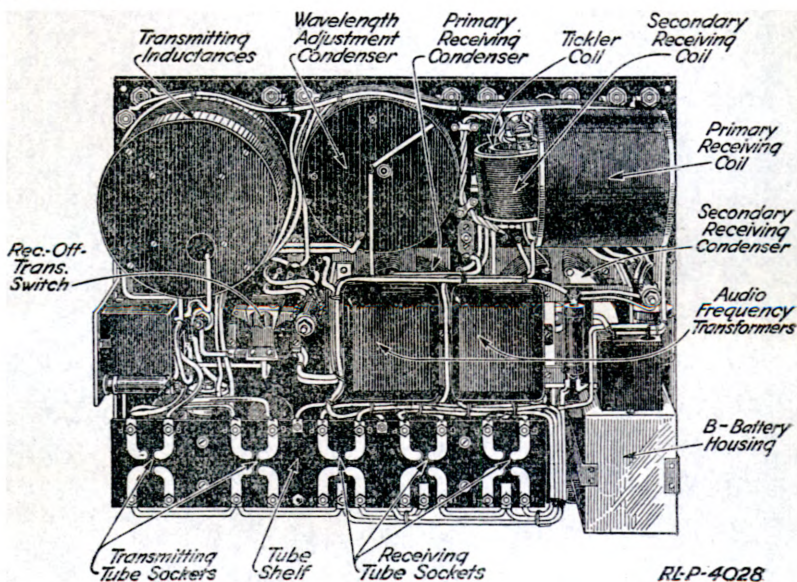

Fig. 73.—Rear, panel view of set box BC-32-A.
3. Open the door at the top of the panel and remove the two screws holding the panel frame to the bracket. Remove the two screws from the lower corners of the panel. Lift the panel out of the box. Inspect the parts in the rear of the panel carefully. (See Fig. 73.) Move the control knobs on the front of panel and note what moves in the rear.
- (26) *Where is the primary inductance of the receiving circuit?*
- (27) *How many taps are there on the primary receiving coil? What switch varies the number of turns being used?*
- (28) *Which is the secondary receiving coil? How many taps on it?*
- (29) *Which is the tickler coil? To which coil is it most closely coupled? Why?*
- (30) *What kind of coupling is used in this receiving set? How is it varied?*